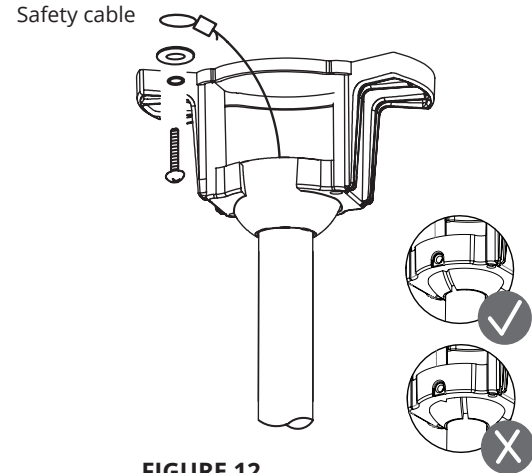

FIGURE 12
1. Carefully lift the fan motor assembly up to the mounting bracket and seat the hanger ball in the mounting bracket socket. Make sure the tab on the mounting bracket socket is properly seated in the groove in the hanger ball (Fig. 12). Rotate the socket assembly until the ball drops and locks into the hanger bracket screw.
2. Secure the safety cable to the building structure using spring washer, flat washer, and wood screw provided (Fig. 12).
Insert the receiver into the mounting bracket with the flat side of the receiver facing the ceiling. (Fig 12)